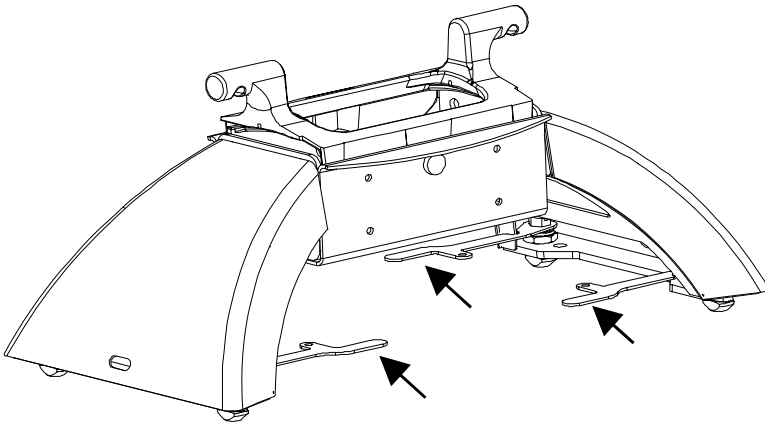

Figure 10A: Anchor Handles in Unlocked Position
7. Replace unit into pucks with all handles in unlocked position (see Figures 10A and 10B). Rotate handles into locked position. It is normal for some of the handles to have very little or no resistance; while others have a moderate amount of resistance when locking. Should a handle not be able to be locked by hand it needs to be adjusted, see Note D.